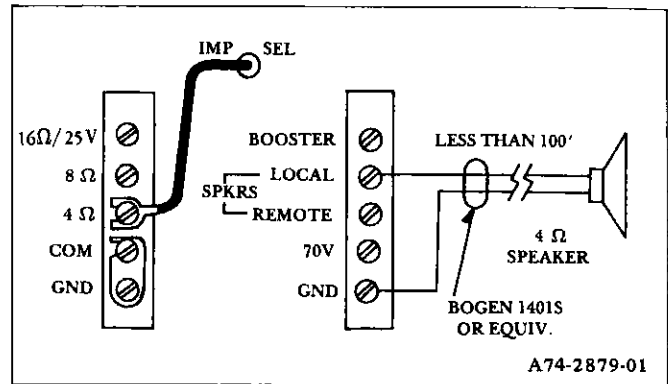
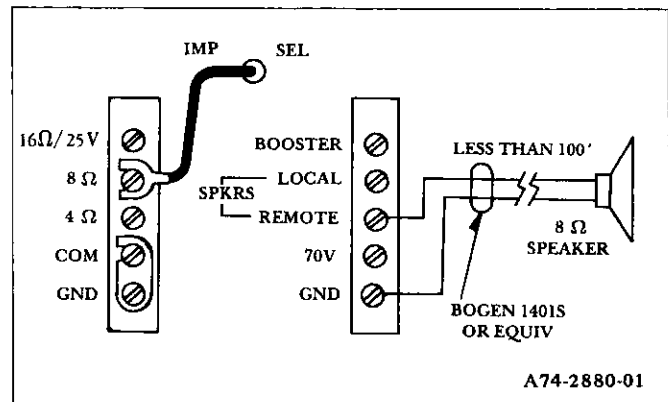

Figure 9—Matching 4-Ohm Local Speaker
Figure 10—Matching 8-Ohm Remote Speaker
- 1) Connect IMP SEL lead to terminal of left-hand strip that corresponds to impedance of your speaker. Figure 9 shows the impedance connection for a 4Ω speaker and figure 10 shows the connection for an 8Ω speaker.
- 2) Connect one speaker lead to either LOCAL or REMOTE terminals on the second strip. This depends upon whether you want the speaker to operate from the LOCAL or REMOTE position of the speaker selector switch. Connect the other speaker lead to GND. Figure 9 shows a 4Ω speaker connected for local operation, while figure 10 shows an 8Ω speaker connected for remote operation.
- 3) Note the link between the COM and GND terminals in figures 9 and 10. This is the standard condition for unbalanced lines with one line grounded. If you wish to use two-conductor shielded cable, remove the link and connect the cable shield to GND. In this case, connect the speaker wire to COM, not GND.